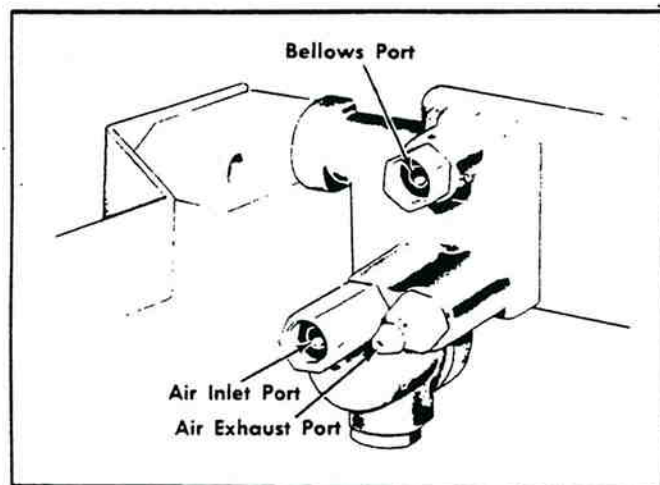

Figure 12-15. Height Control Valve Air Ports.
- Connect pressure line to valve intake port (figure 12-15) and open air pressure to 95 psi (655 kPa).